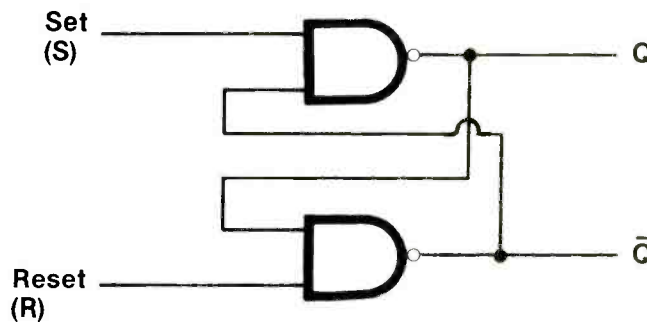

Figure 2A. An RS flip-flop (cross-coupled, monostable flip-flop). Note that the NAND gates invert the input signal.
Unfortunately the flip-flop has some problems in its basic form. To illustrate this, we will hook up a flip-flop, using a pair of 2-input NAND gates, as shown in Figure 2A. This basic flip-flop is known as a set-reset flip-flop (RS), and its truth table is in Figure 2B. Note that the output of each NAND gate is the input inverted and that there are two outputs available, out of phase with each other. It should be noted that the input marked "Reset" is often labeled "Clear".